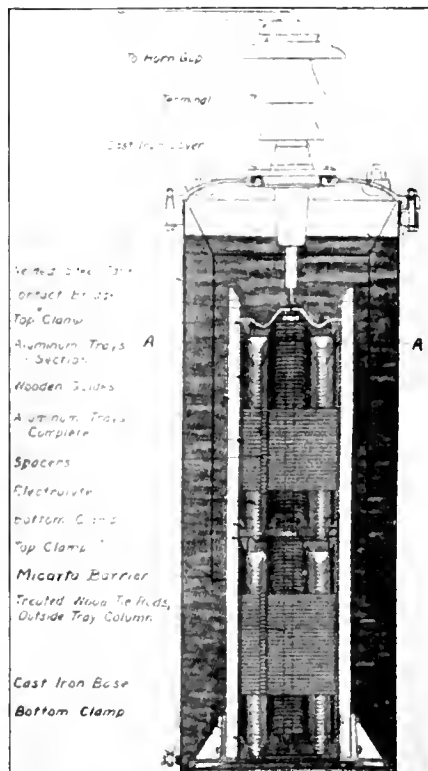

FIG. 3. SECTION OF TYPICAL ELECTROLYTIC ARRESTER.
The electrolytic lightning arrester consists of a system of nested aluminum cup-shaped trays (supported on porcelain and secured in frames of treated wood) arranged in a steel tank. The system of trays is electrically connected between line and ground and between line and line. The shape of the trays is shown in Fig. 1 and the assembly in Fig. 2. A cross-section of the complete arrester is shown in Fig. 3. A certain amount of electrolyte is placed in each tray and, due to the shape, the liquid comes in contact with the bottom of the tray immediately above. Every tray is filled, so that there is a complete connection throughout the whole series of trays. Transformer oil is then poured into the tank. The electrolyte is heavier than oil and therefore remains in the bottom of the trays. The oil serves four purposes, viz.: (1) It improves the insulation between the trays. (2) It increases the insulation between the tanks and the trays in all cases where insulation is necessary. (3) It prevents evaporation of the electrolyte. (4) It helps to dispose of the